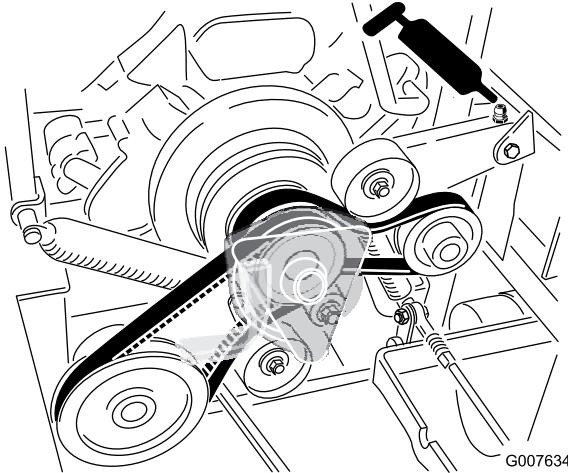

Figure 33
5. Grease the pump belt idler arm (Figure 33).